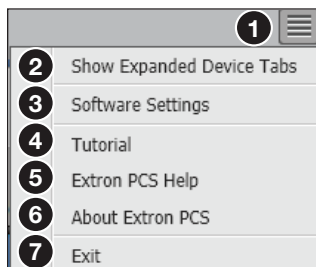

Figure 64. Software Menu
The Software menu (see figure 64, ①, accessible at the top right corner of the PCS window) contains options to display device connection methods in the device tabs, re-enable confirmation dialogs, and view software information.
1. From the Software menu, select **Tutorial** (see figure 64, **4** on the pervious page). The Tutorial dialog box opens.
From the Software menu, select **Extron PCS Help** (see figure 64, **5**). The Product Configuration Software Help file opens in a new window.
1. From the Software menu, select **About Extron PCS** (see figure 64, **6** on page 85). The About - Extron PCS dialog box opens.
1. From the Software menu, select **Exit** (see figure 64, ⑦ on page 85). If device tabs are open, the Exit dialog box opens.